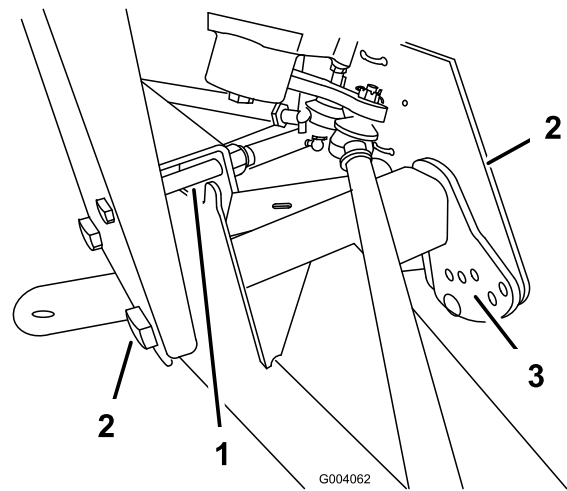

Figure 40
2. Remove the travel limiting bolt (Figure 40).
3. Loosen the centering bolts in the front A-arm (Figure 40).
4. Remove the ride height adjustment bolt (Figure 40).
5. Rotate the front A-arm to the desired position (refer to the note below) and replace the ride height adjustment bolt (Figure 40).
7. Replace the travel limiting bolt (Figure 40).